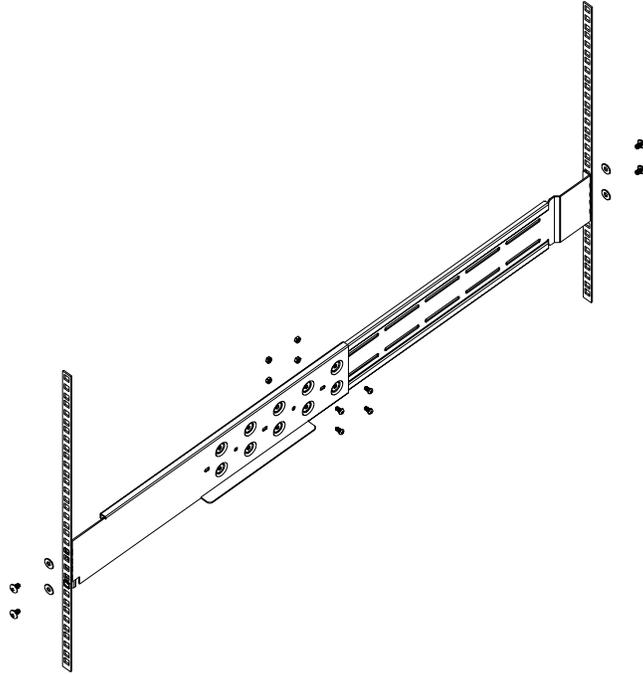

Figure 1
3. Use T5*8M screws and PW14 washer to install the left slide on Front and rear Posts of Rack as Figure 1.